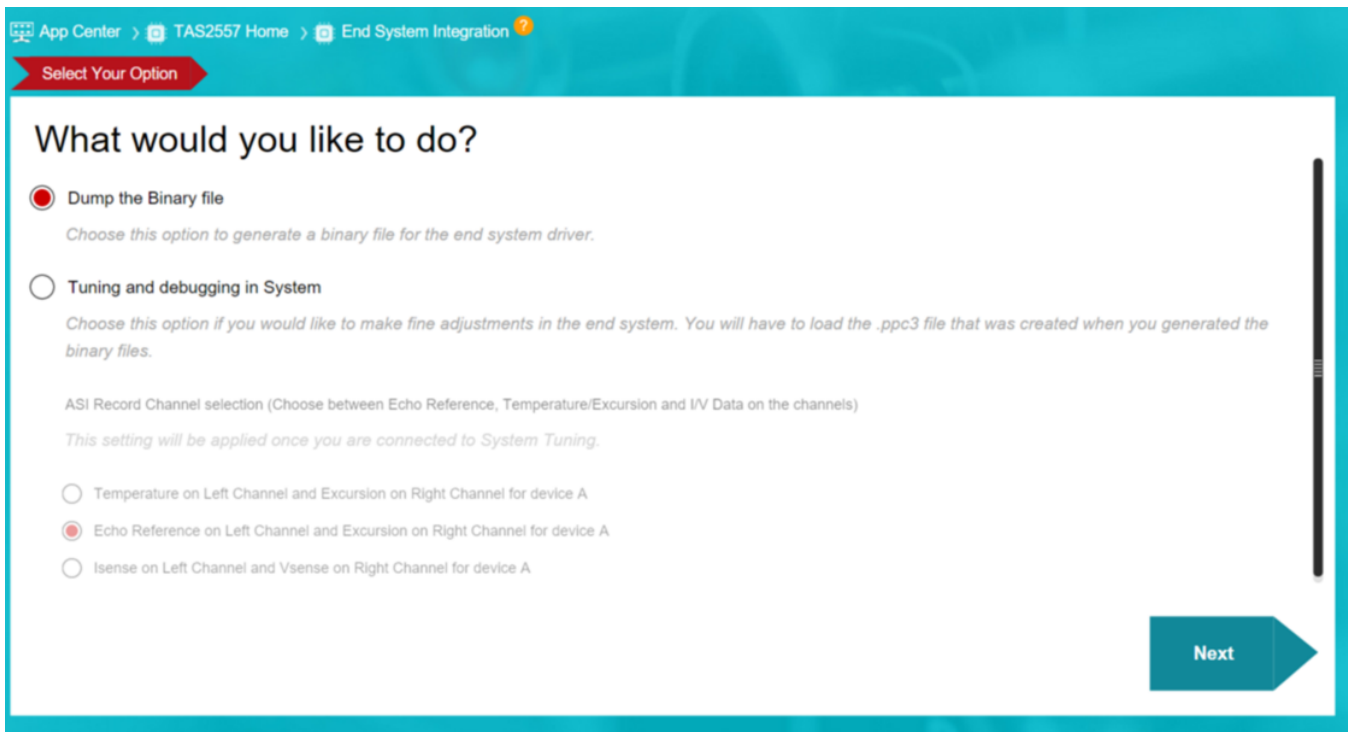

Figure 29. End-System Integration (2 of 2)
2. Select *Dump the Binary File* to continue to the next step (see Figure 29).